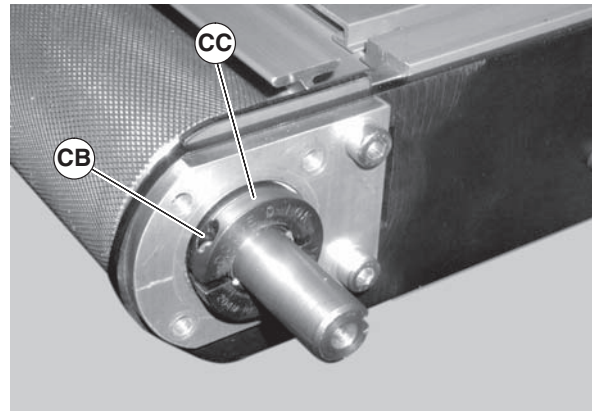

**Figure 59**
3. Remove four shaft cover screws (Figure 59, item BZ). Remove the shaft cover (CA).